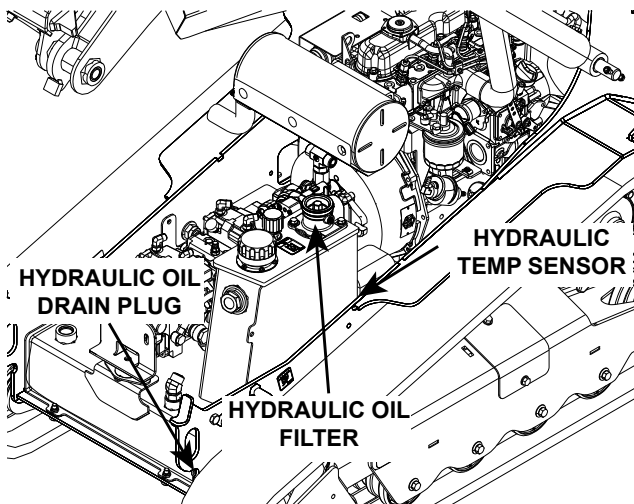

Figure 6-11. Hydraulic Oil Filter and Drain Plug
4. Place a suitable container under the hydraulic oil drain plug. See Figure 6-11. Remove the fill cap from the reservoir and the drain plug from the front of the hydraulic tank. See Figure 6-11. Allow the fluid to drain into the container and properly discard it.
1. Remove the oil filter element and properly discard it. See Figure 6-11.